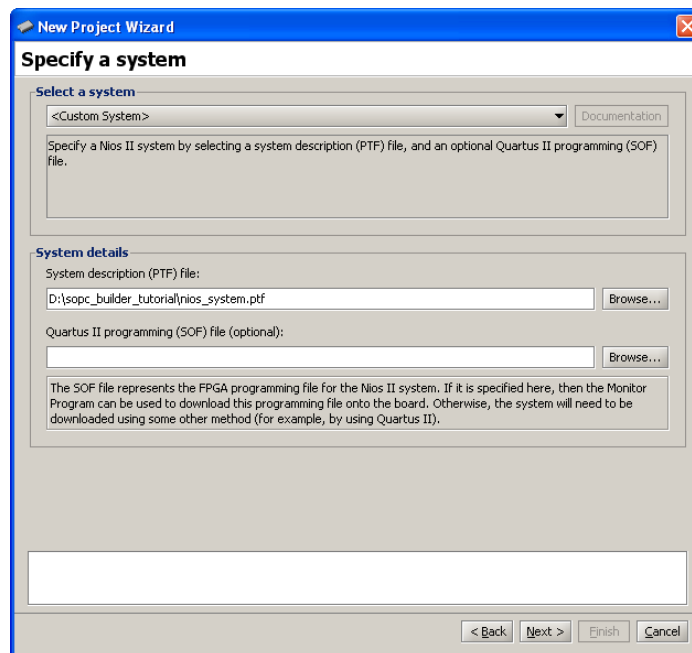

Figure 23. The System Specification window.
2. Enter *lights* as the Project name and click Next >, leading to Figure 23.